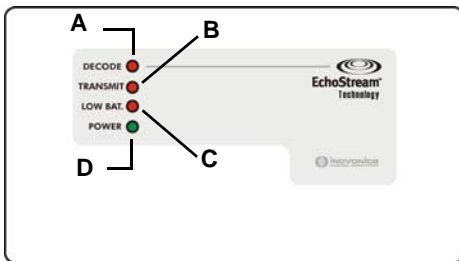

Figure 1 EN5000 LEDs
**Decode LED:** Flashes when any recognizable RF transmission is received. (Fig. 1).
**Transmit LED:** Lit when transmitting an RF transmission (Fig. 1).
**Low Battery Fault LED:** Lit when the high-power repeater has a low battery (Fig. 1).
**Power LED:** Lit when receiving power (Fig. 1). The LED lights green when the unit is receiving line power; red when receiving battery power.